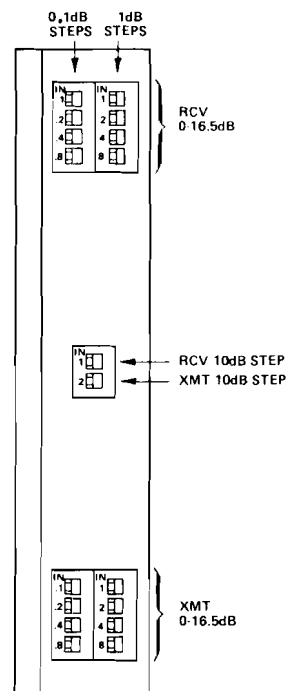

figure 2. 6925 front-panel switches
2.06 Adjustable attenuators in the transmit and receive paths provide for interfacing the -16 transmit and +7 receive facility-side TLP's with conventional terminal-side levels. From 0 to 26.5dB of loss may be introduced in 0.1dB increments via front-panel DIP switches (see figure 2). Total attenuation in either channel is the sum of that channel's switches set to the /N position.